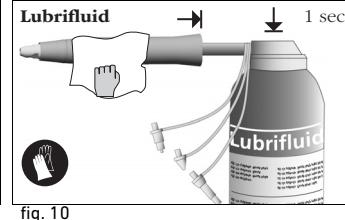

fig. 10
- Insert the spray tip in the back of the instrument handle fig. 10.